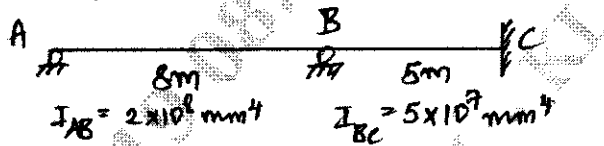

Fig.Q8
- 8 The top and bottom surfaces of the continuous beam shown in the Fig.Q8 are heated to 20°C and 10°C, respectively. Determine the final support moments using element stiffness method.  $E = 2 \times 10^5 \text{ N/mm}^2$  and  $\alpha = 1.2 \times 10^{-5} / ^\circ\text{C}$ . The depths of members AB and BC are 400mm and 200mm respectively. (16 Marks)